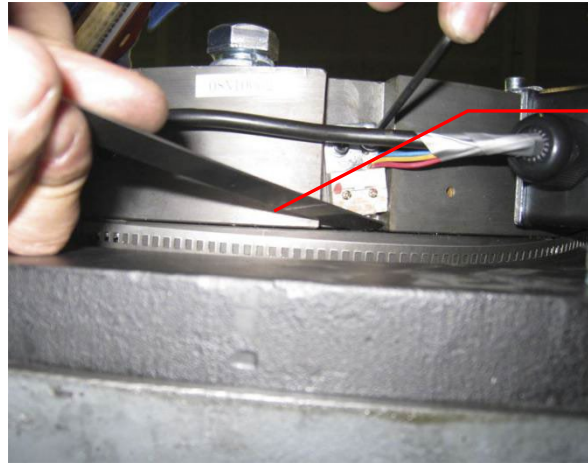

Figure 31 Wrap with electrical tape
5. Cover the brake switch cable with and brake power lines with electrical tape. See Figure 31.